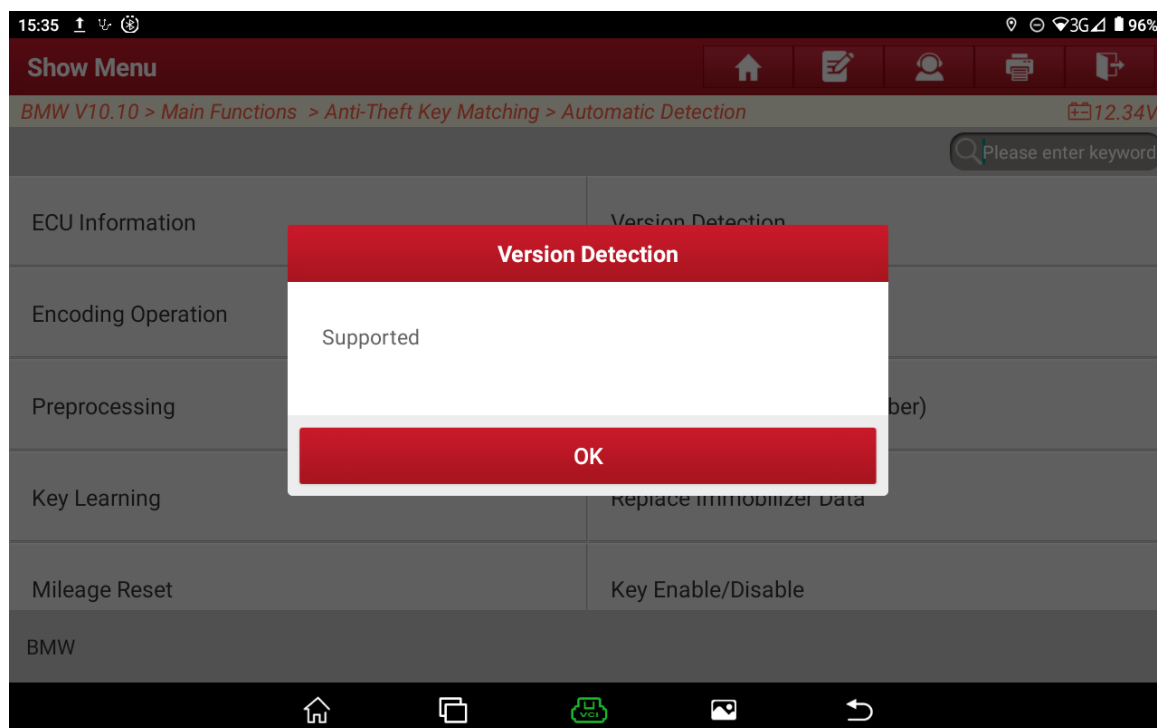

Figure 7
7. The current software version of the anti-theft system supports the following. If it does not support it, a prompt will be displayed. Select “OK”, as shown in Figure 7.